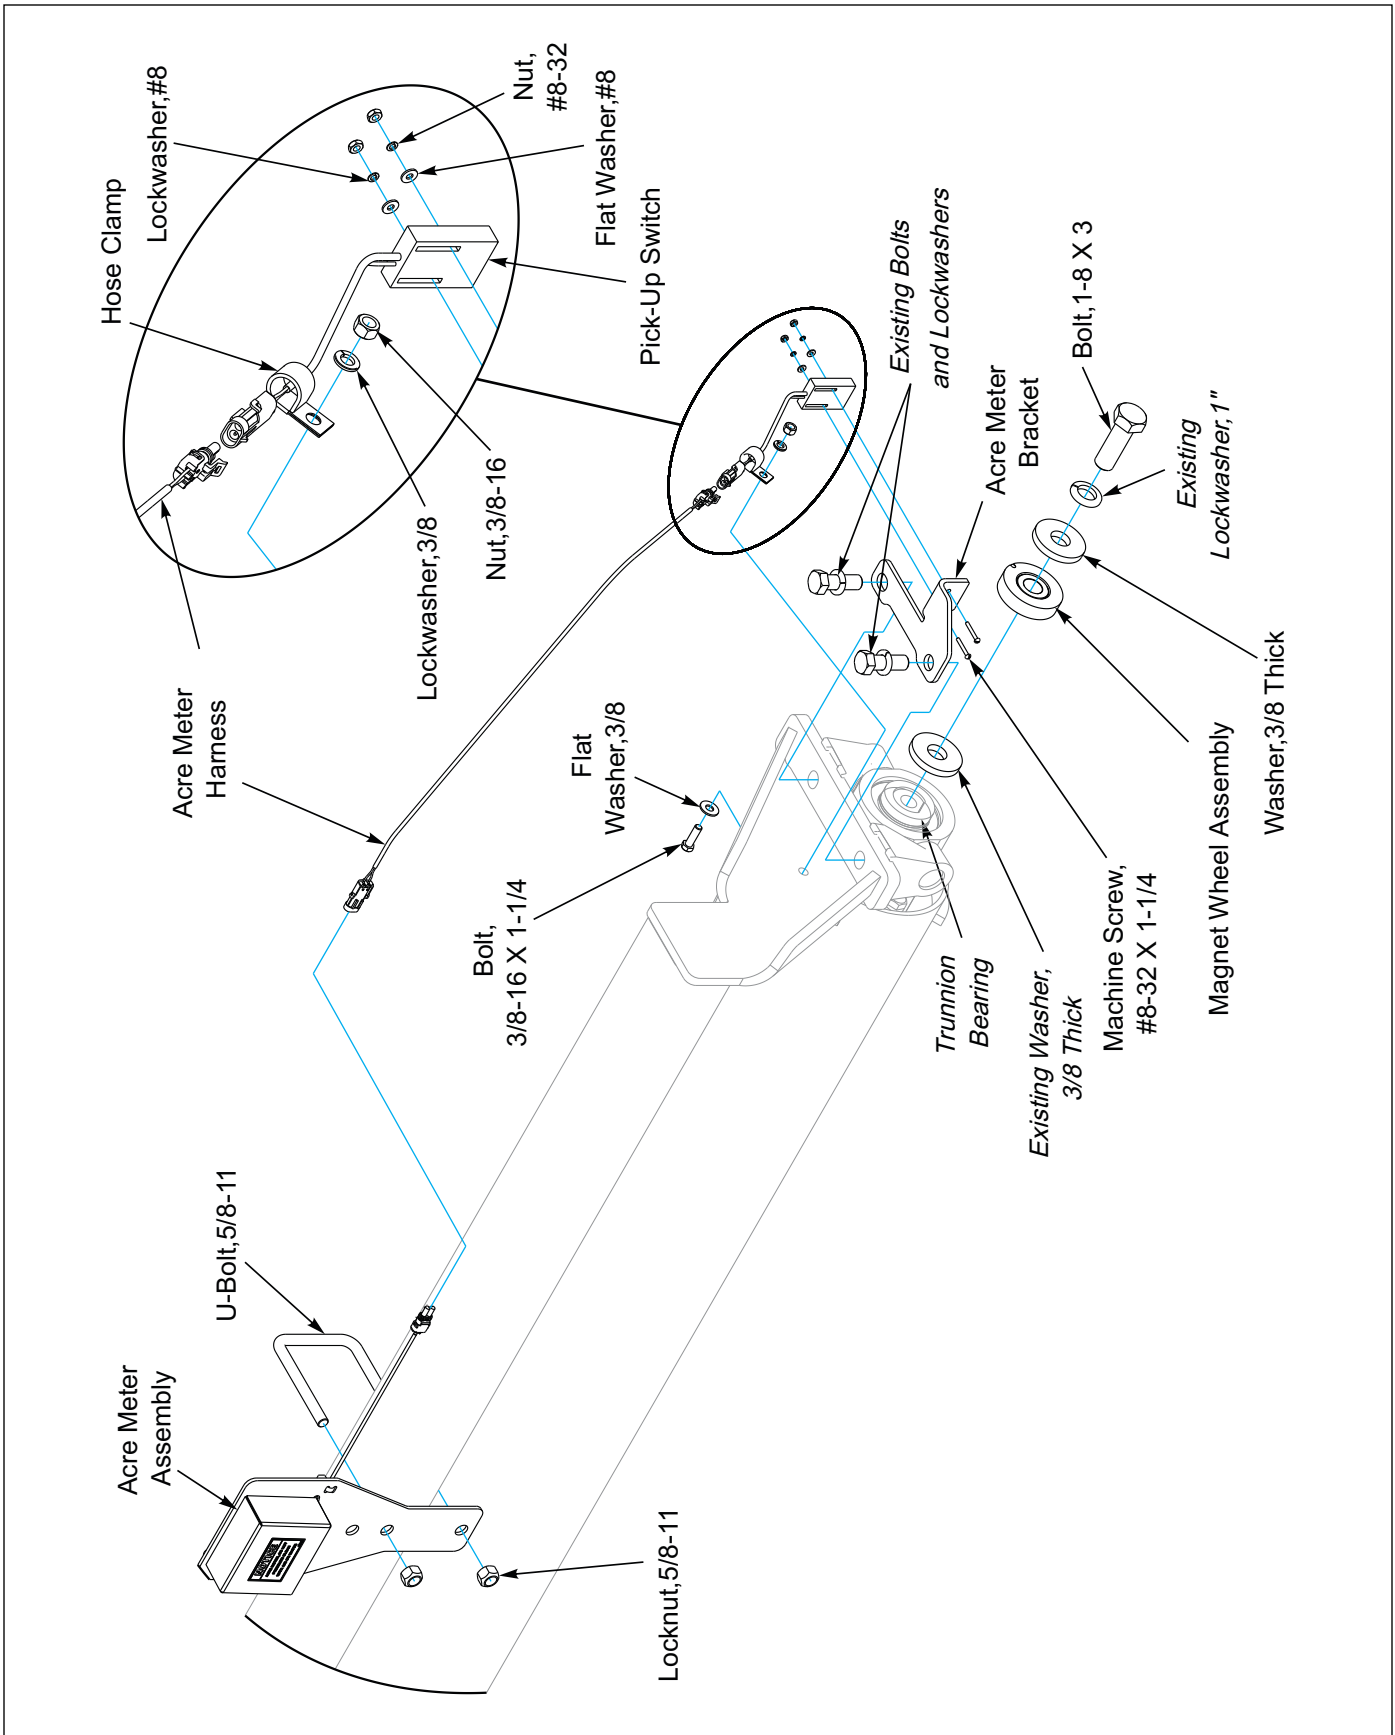

Figure 2-26: Acre Meter Installation
1. Attach the Acre Meter Assembly to the front frame tube using 5/8-11 U-Bolt and Locknuts. **See Figure 2-26.**